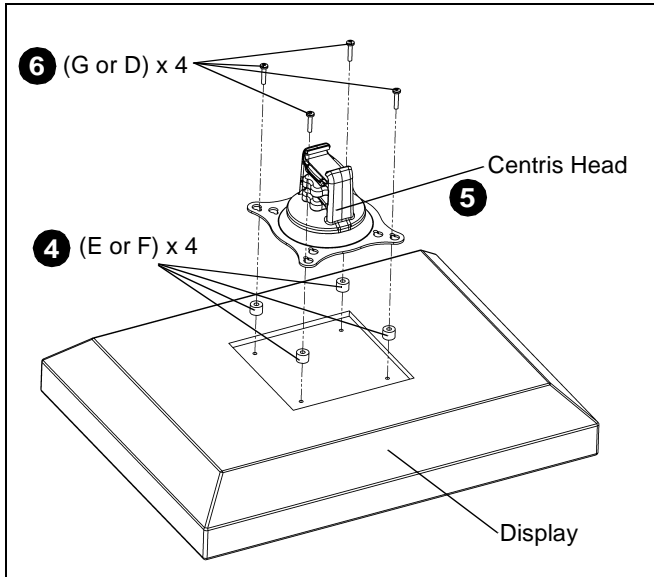

Figure 8
6. Secure Centris head to display using four M4 x 20mm Phillips pan head screws (G), or four M4 x 30mm Phillips pan head screws (D). (See Figure 8)